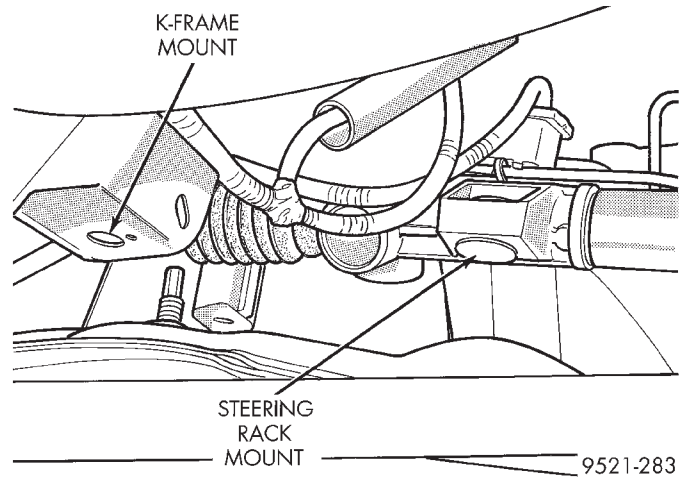

Fig. 52 Steering Gear and K-frame Bolts
- (24) Remove crank position sensor (if equipped).
- (25) Remove transaxle wiring.
- (26) Loosen right side steering gear bolts. Loosen right side K-frame bolts.
- (27) Remove left side steering gear bolts. Remove left side K-frame bolts (Fig. 52).